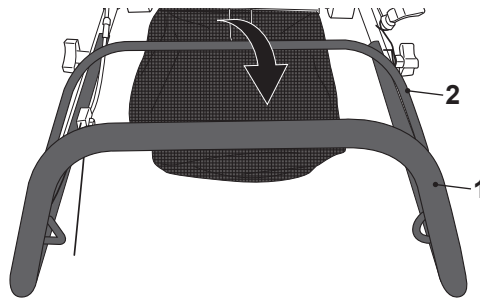

Fig. 11
1. Pull back the brake lever (2) and hold it against the upper handle bar (1) when starting the engine. Keep it squeezed during operation (Fig. 11).
2. Release the brake lever (2) to stop the engine.
1. Pull back the brake lever (2) and hold it against the upper handle bar (1) (Fig. 11).